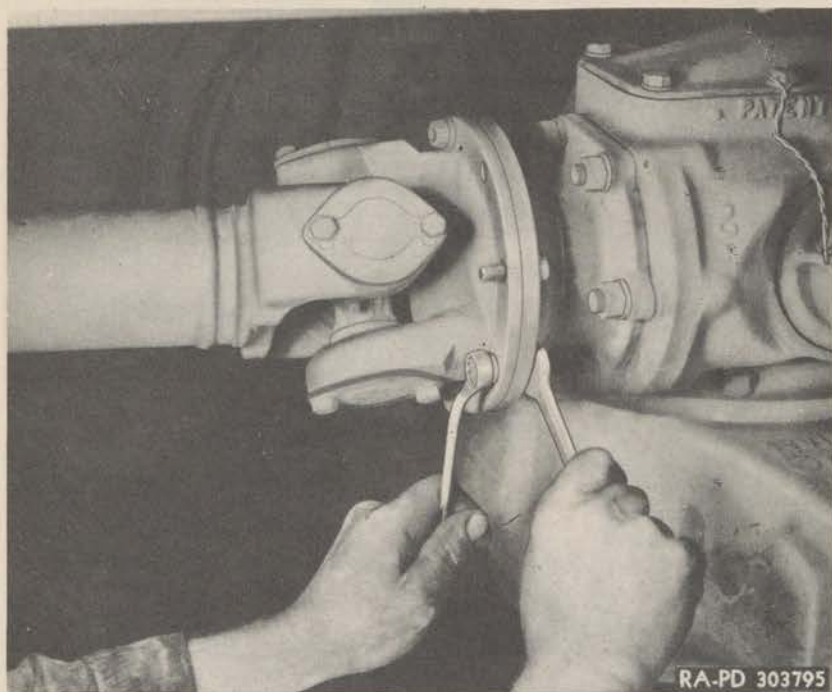

Figure 105—Connecting Companion Flanges
(2) **CONNECT COMPANION FLANGES.** Install the cap screws, nuts and lock washers which were removed through the holes in the companion flanges and tighten securely (fig. 105).